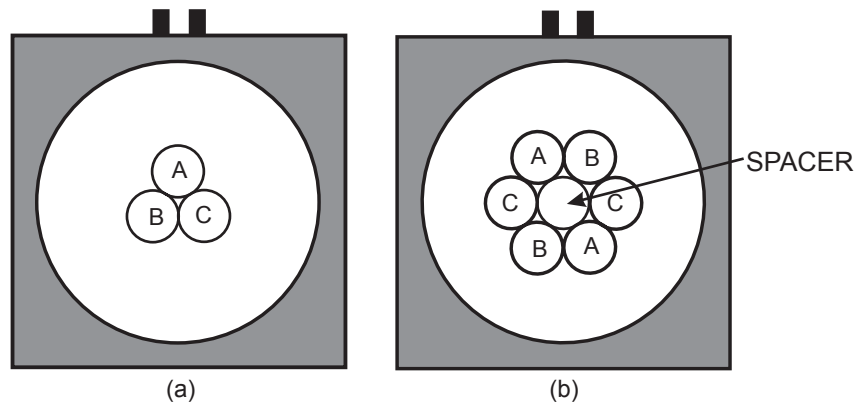

Figure 1: Zero-Sequence-CT Cable Arrangements
An ideal window-type current transformer responds only to the sum of the currents flowing through its window; however, an actual current transformer may saturate if the phase currents are too large. This results in current transformer output even if the sum of the phase currents is zero. Saturation can be minimized by choosing a current transformer (CT) with an adequate core and symmetrically locating the phase conductors in the center of the CT window as shown in Figure 1.